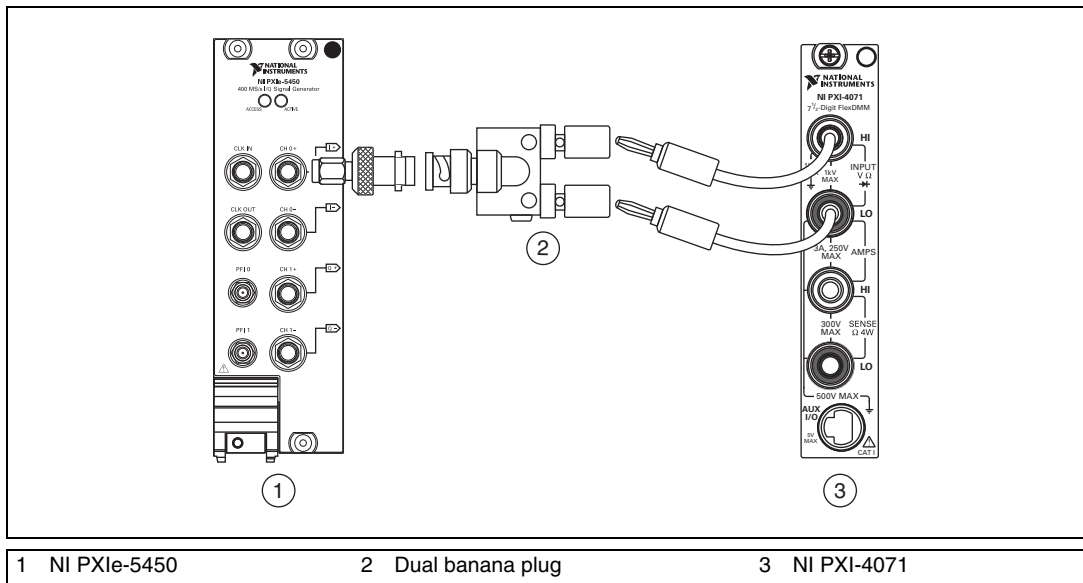

Figure 3. DC Voltage Common Mode Offset Accuracy Verification Connection (CH 0)
- Connect the NI 5450 CH 0+ output to the positive output of the DMM and the cable shield ground of the NI 5450 CH 0+ output to the negative input of the DMM as shown in Figure 3.